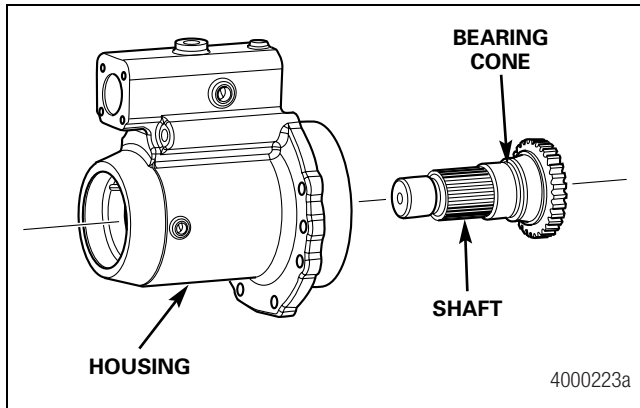

Figure 7.9
- B. Preheat the first bearing cone to 200° F (93° C). Support the shaft and slide the heated cone in place onto the output shaft. Figure 7.9.